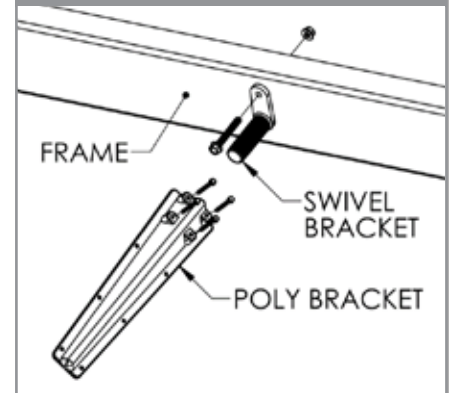

FIGURE 8
- Place four 5/16" x 3" bolts through the (10001464) poly bracket and the (10001485) backing block to clamp the (10001472/10001473) swivel. (See Figure 8)